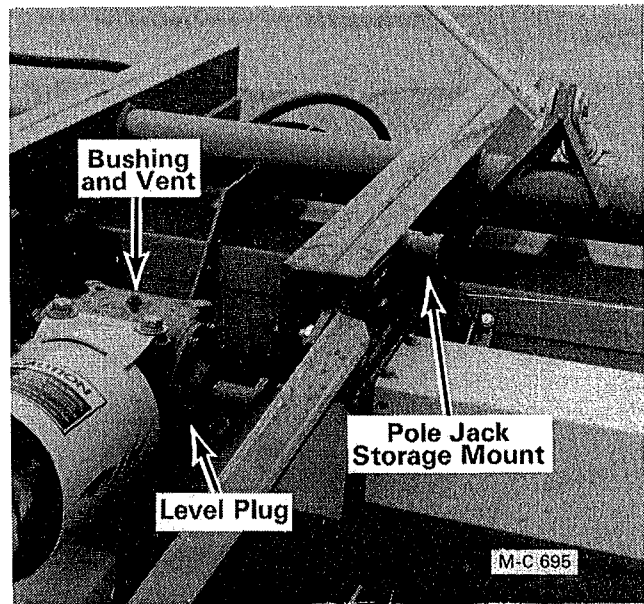

Figure 11 - Model 2408 Shown
1. Remove the oil level plug on the left side of the gear box, see Figure 11 page 8. The oil level should be even with the bottom of the level plug. If the oil level is low, remove the bushing with vent on top of the gear box and add Mobilfluid 424 multipurpose transmission lubricant or equivalent until it just runs out of the level plug.